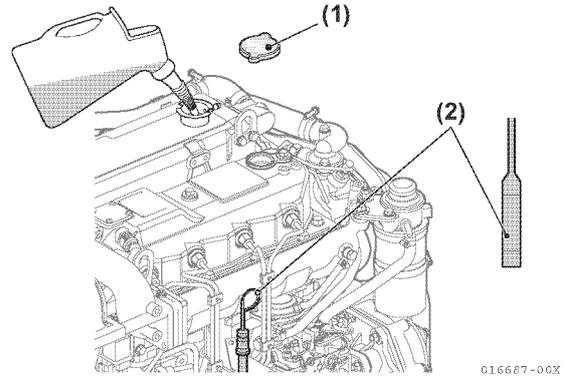

**Figure 5-202**
73. Connect the electric wires to the terminals before attaching the alternator to the gear case (Figure 5-202).